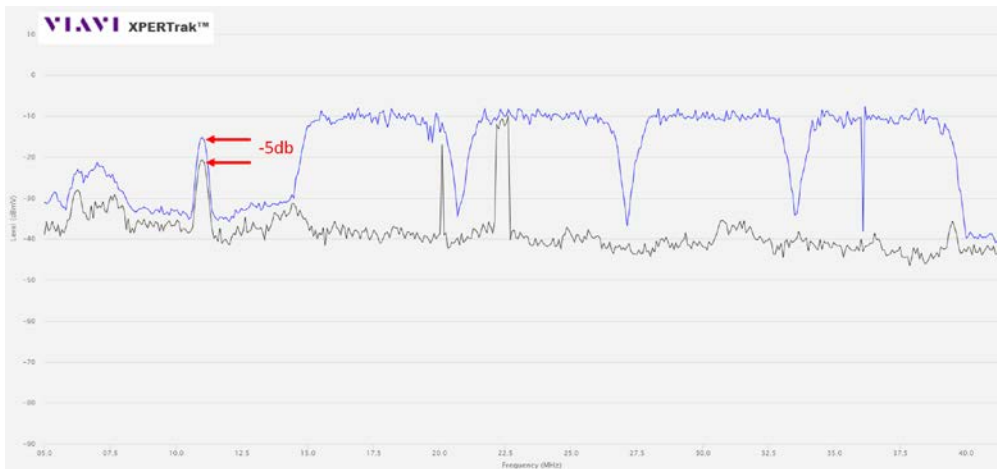

Figure 5 – XPERTrak ingress reduced with I-Stop button pressed
f. Check remote monitoring system to see if ingress lowers by 5dB (Figures 5 or 6)